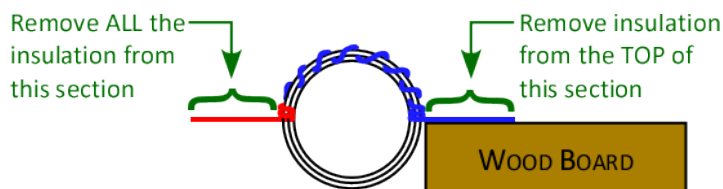
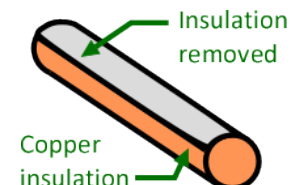

Figure 3
Figure 4
- Now hold your coil so the straight segment on the right side is on the wood board, but the loop sits vertically off the left side of the board (**Figure 3** below). Use sandpaper to remove **ONLY THE TOP HALF** of the insulation along the straight segment, again right up to the edge of the loop (**Figure 4**).